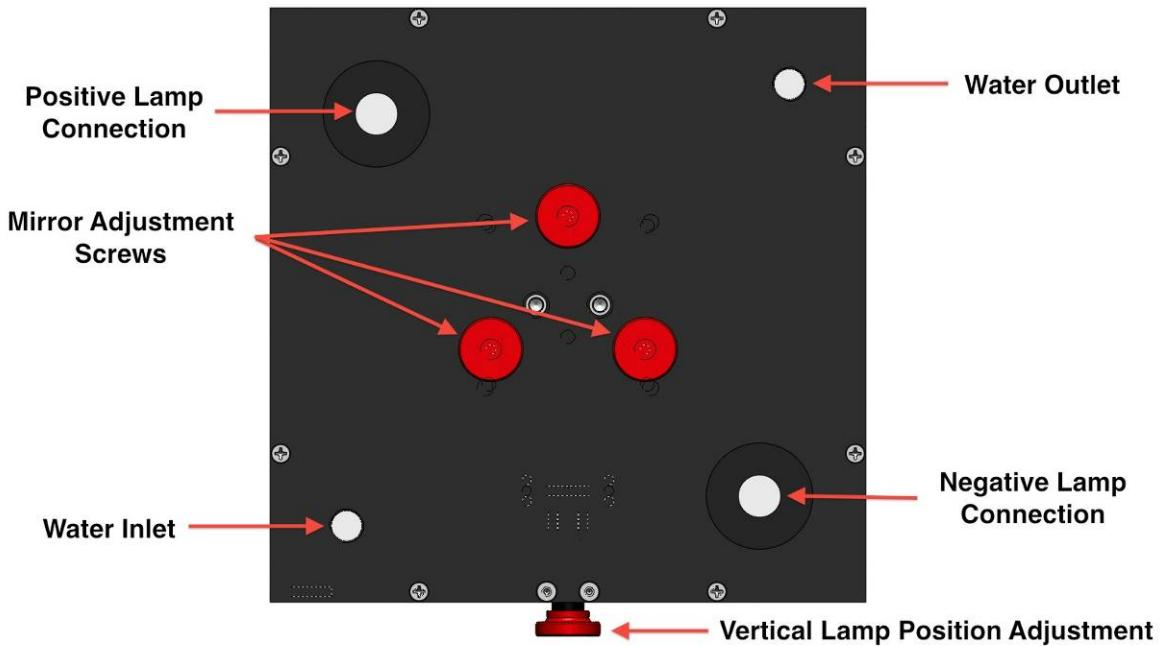

Figure 2: Arc-Lamp Housing
2. The lamp **REQUIRES** circulating water for operation. A pump and water bath are supplied for this purpose. The water in the supplied bath should be no cooler than room temperature to avoid condensation inside the light source housing. The water inlet and outlets are shown in *Figure 2*. Because mineral deposits from tap water can clog the capillary tubing in the lamp housing, **ONLY** use distilled water in the water bath. Change the water monthly, or whenever it appears turbid.
5. Connect the igniter cables into the proper terminals. The white positive cable has a red end; this will be plugged into the red female receptacle on the arc lamp housing (*Figure 2*). The black negative cable has a black male plug that will be inserted into the black female receptacle on the arc lamp housing. You will then need to connect your tubing to the barbed fittings to cool the lamp. The water inlet is located in the lower left of the arc lamp housing. The water outlet is located in upper right corner of the arc lamp housing. Be certain water is flowing through the lamp housing. If water is not flowing through the lamp housing, damage WILL result. This should be done every time prior to igniting the lamp.